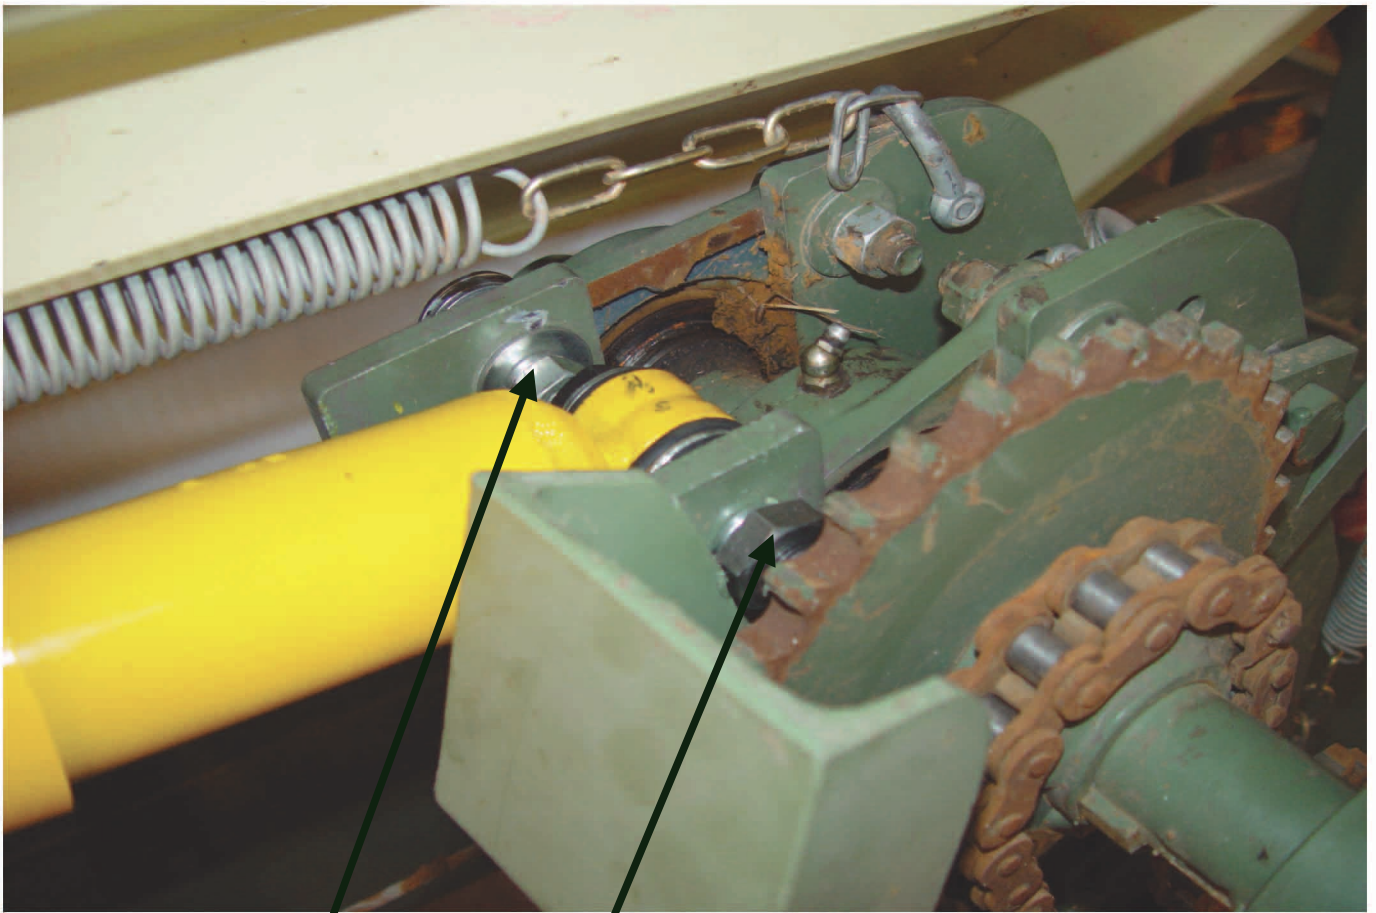

Fig.2
Remove inner forward bearing bolt (A) – Fig.2.
Bolt on shock absorber to the outer wheel drive plate (B) using the 5/8" bolt supplied – Fig.2.